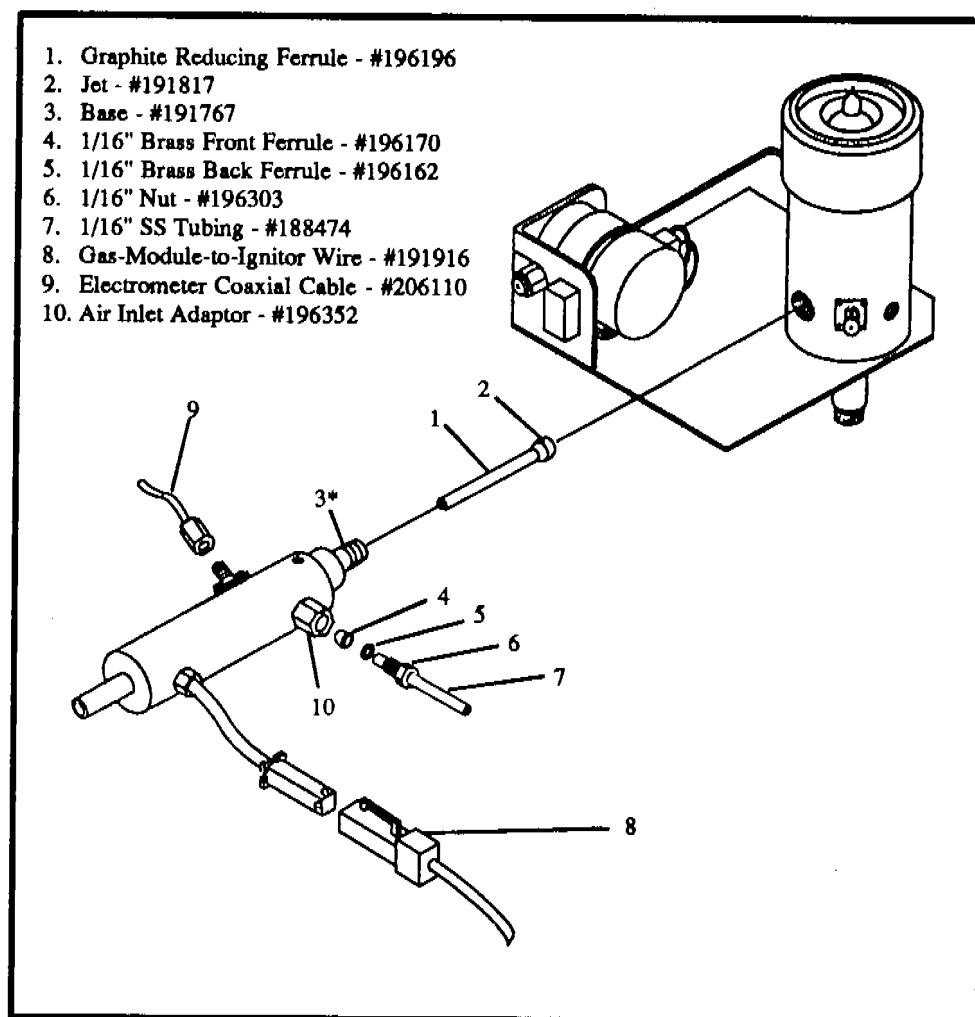
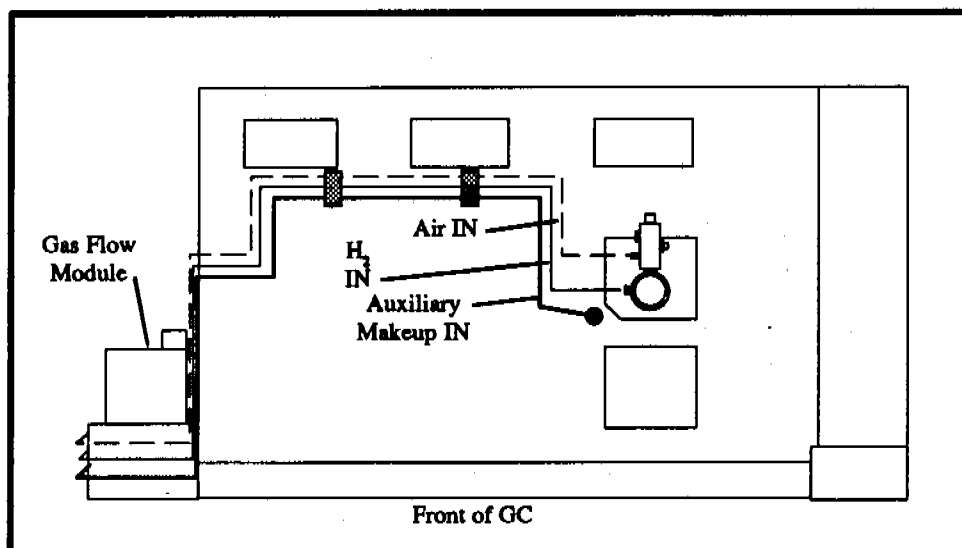

Fig. 3.4 Installation of 4410 FID
Fig. 3.5 PID/FID Gas Lines
- Screw the FID base (with the two installed O-rings*) and the jet (with the graphite reducing ferrule) into the exhaust port of the PID, as indicated in Fig. 3.4. Make certain the jet is firmly seated against the recess in the PID exhaust port. Tighten the base with a 5/16" wrench.
- The hydrogen and auxiliary makeup lines are terminated and connected as directed in the PID Operator's Manual (Chapter 3, Installation on HP 5890). Route these gas lines as shown in Fig. 3.5.
- Route the air line according to Fig. 3.5. Connect the open end to the air inlet adapter on the FID body using a 1/16" nut (OI Analytical #196303) and a 1/16" brass ferrule set (OI Analytical #196162 and #196170) provided in the FID Start-up Kit, as shown in Fig. 3.4, page 14.